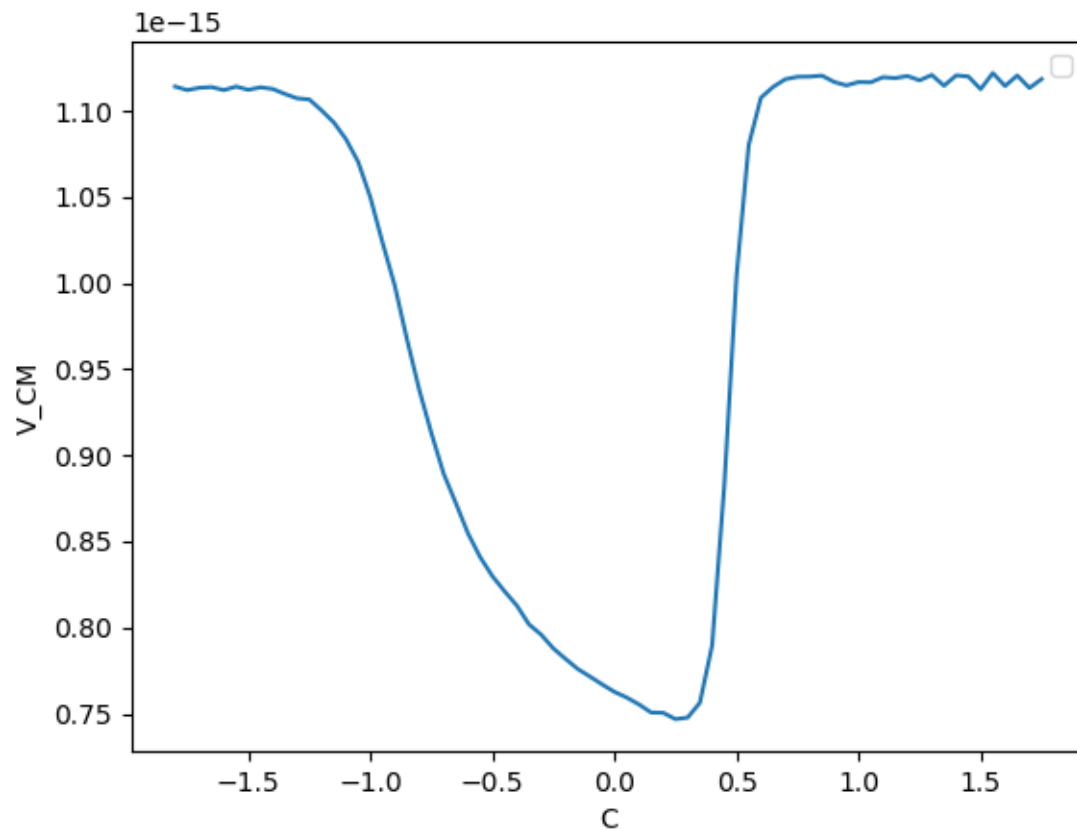

Figure 8: Short Channel, $f=10\text{GHz}$
- Please refer Figure 8 for the plot.